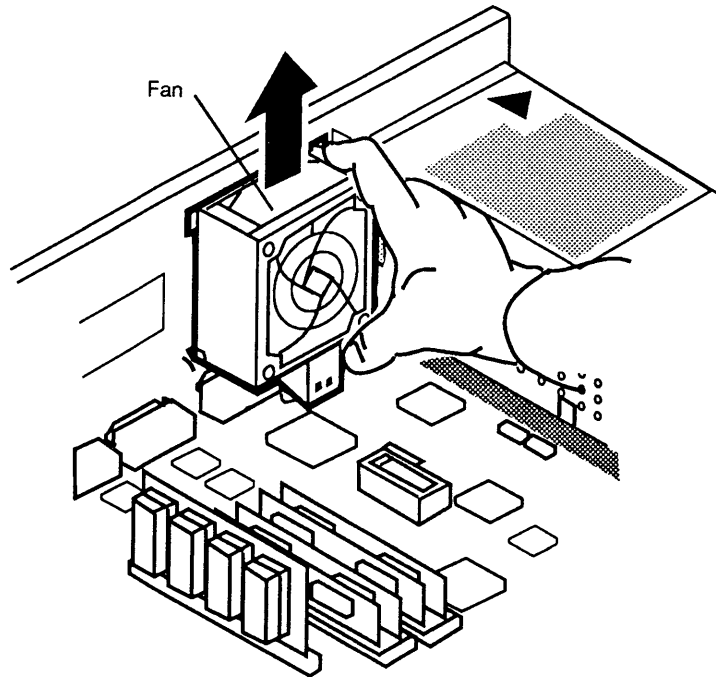

Figure 2-4 Removing the Fan
2. With the front of the computer facing you, place your thumbs under the fan (**Figure 2-4**) and pull straight up. The fan will snap free. (You may need to use moderate pressure to snap the fan free.)